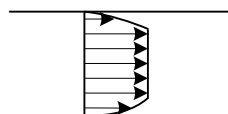

Figure 2-3.2: Plug flow of a Binghamian fluid.
- b) Plug flow will occur at any laminar flow since shear stress is low in the middle of the pipe. The Bingham model predicts an $YP = 9.1 \text{ Pa}$. This is a theoretical value, but given time at steady-state laminar flow, gel strength will develop, in fact approaching the level of the YP . Shear stresses below this level will lead to gel (flocculation) as shown in Figure 2-3.2.